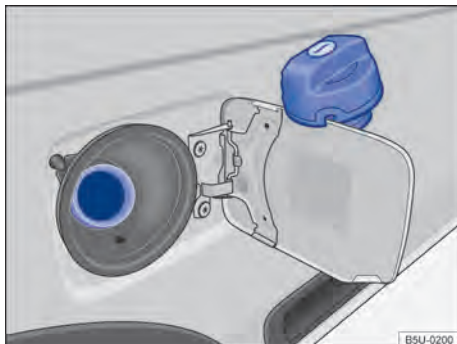

Fig. 159 Open tank flap with tank cap attached to the holder.
- Screw the cap anticlockwise and hang it over the tank flap → Fig. 159.